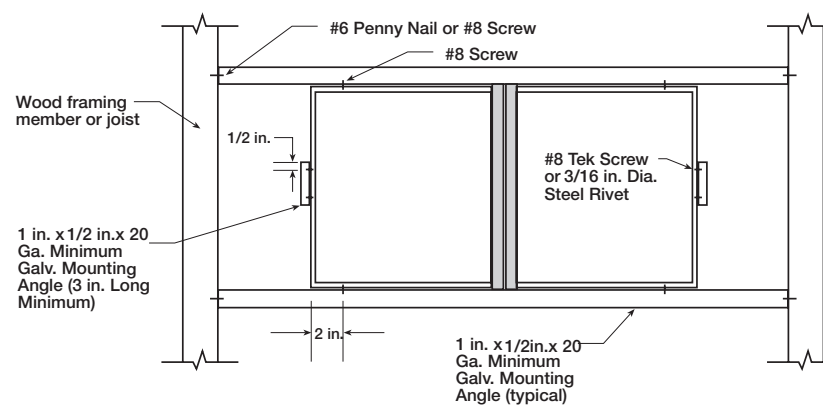
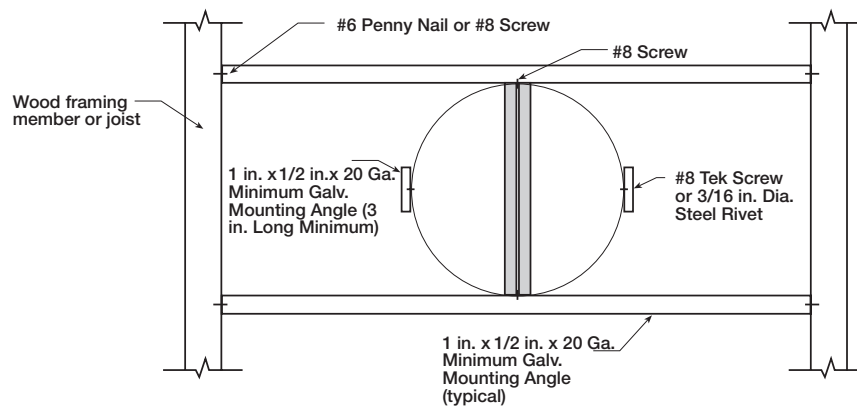

Figure 2
Figure 3
- **Figure 2 and Figure 3** show top views of a rectangular and round damper installation, respectively.